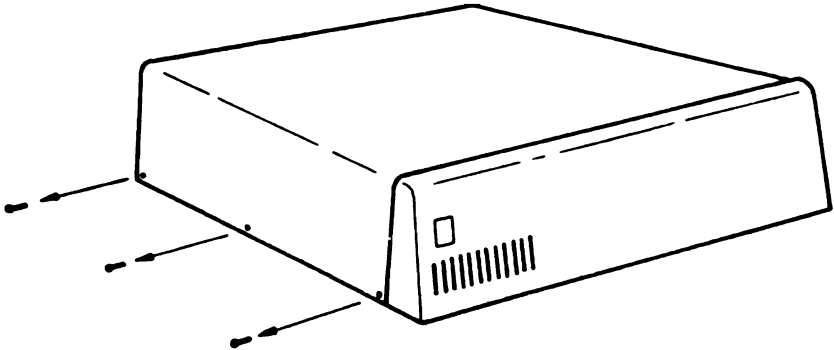

Figure 5A
1. Remove the three screws on each side of the expansion chassis using a phillips-head screwdriver, as shown in Figure 5A. Save the screws.